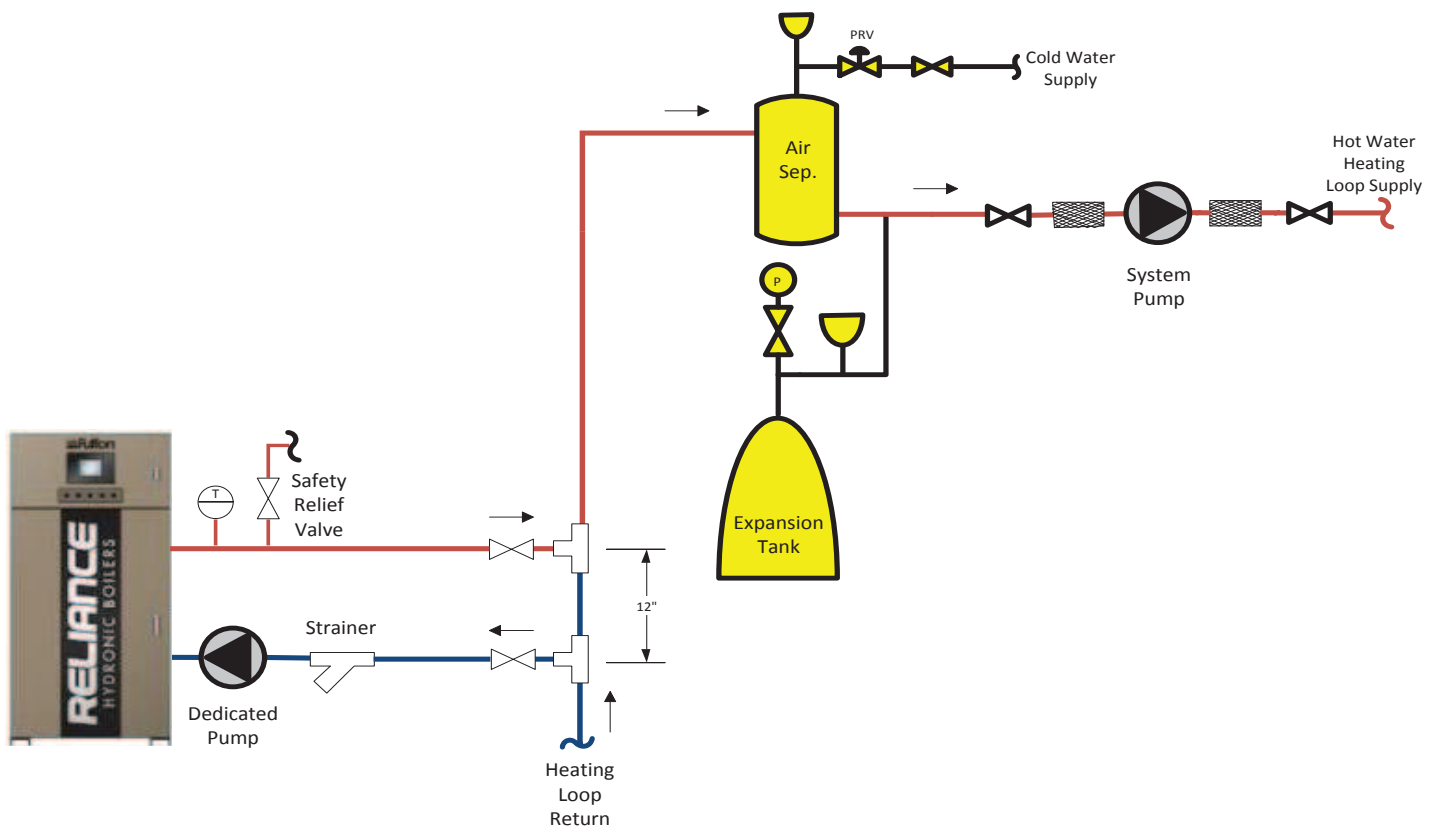

FIGURE 3 - SAMPLE PIPING LAYOUT: SINGLE BOILER WITH RETURN WATER TEMPERATURE > 140 F (60 C)
6. Install a hot water circulator, remote mounted from boiler. Do not attach directly to the boiler. Refer to Figures 3 - 5 for proper location of circulators.
3. Appropriate flow rates and return water temperature may be achieved through primary and secondary flow loops. Please refer back to Figures 3 - 5 for example systems. Multiple pumps, valves and heating zones operating at a variety of conditions will cause system flow to vary. System design professionals should consider the variety of conditions the heating system will experience.